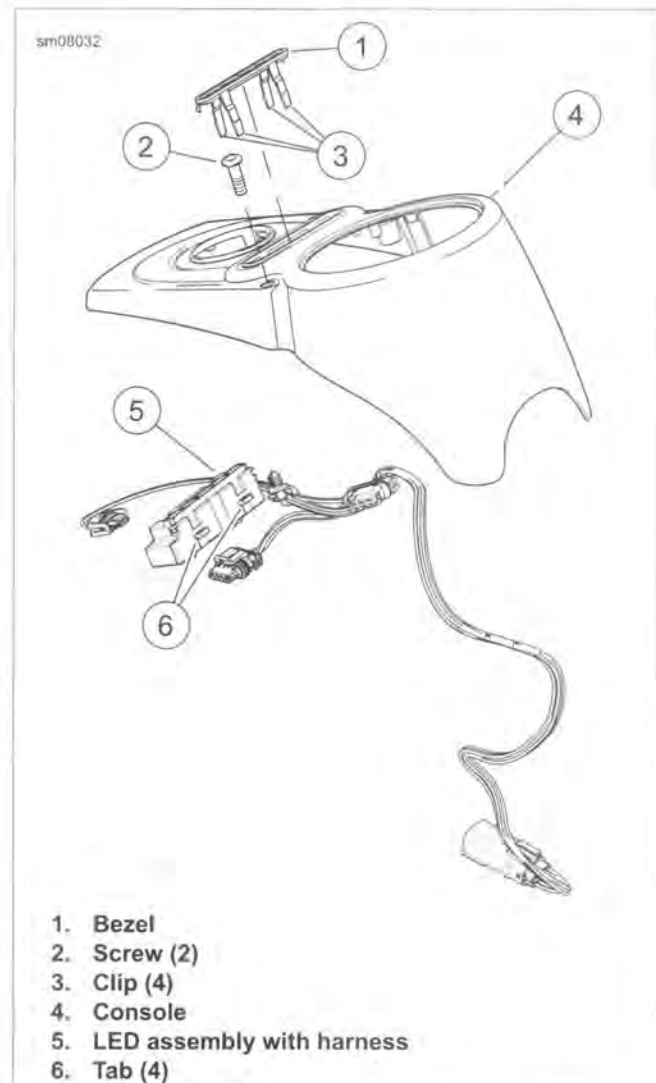

Figure 7-80. Indicator Lamp Assembly: FLD
1. See Figure 7-80. Remove screws (2) and raise console (4) from fuel tank. Place shop rags on tank and turn console over to expose underside.
2. Squeeze clips (3) of bezel to free from tabs (6) on LED assembly with harness (5). Pry LED assembly with a screwdriver to remove.
1. See Figure 7-80. Install LED assembly into console. Make sure clips (3) engage to secure assembly in place.
4. Secure console (4) in position with screws (2). Tighten to 41-49 in-lbs (4.6-5.5 Nm).